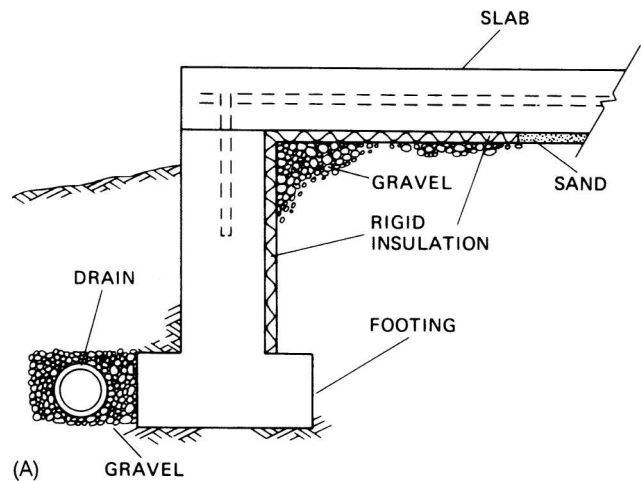

Fig. 4-2 A. Insulation for a slab. B. Forms for a slab.
With concrete slabs, most of the heat-energy loss occurs at the edges. Energy loss can be reduced by using rigid insulation (Fig. 4-2). In extreme cases, where a warmer floor is needed, heating ducts may be built in the slab flooring itself. This is an efficient method and provides an even temperature in the building. A warmer type of floor can also be built over the concrete floor and is discussed later in this chapter.
- *Two-piece slabs* are best suited for cold or wet climates. Figures 4-2 and 4-3 show both types of slabs.
Insulate the edges Go back to Fig. 4-2, which shows the insulation for a slab. Insulation is laid after placement of the vapor barrier. The insulation is placed around the outside edges. This is called *perimeter insulation*. The insulation should extend to the bottom of the footing. It also should extend into the floor area at least 12 inches. A distance of 24 inches is recommended.